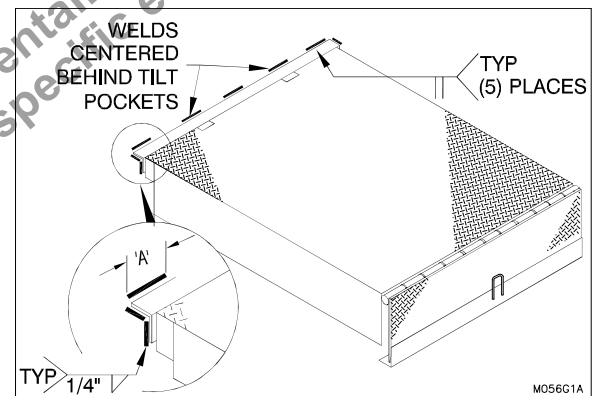

Figure 13: Hydraulic Dock Back Angle Weld of Dock Leveler
**⚠ CAUTION** The maintenance stand of this dock leveler is designed for use only when the dock leveler is securely welded into the dock leveler pit. Use of the stand is not recommended if the dock leveler is not securely welded into the pit (see “Figure 13: Hydraulic Dock Back Angle Weld of Dock Leveler” on page 12). To support the dock leveler at times when installation welding is not in place, an auxiliary maintenance stand that supports the dock leveler more centered on the dock leveler width is recommended. See “Pentalift auxiliary maintenance stand” on page 52.
**The maintenance stand of this dock leveler is designed for use only when the dock leveler is securely welded into the dock leveler pit. Use of the stand is not recommended if the dock leveler is not securely welded into the pit (see “Figure 13: Hydraulic Dock Back Angle Weld of Dock Leveler” on page 12). To support the dock leveler at times when installation welding is not in place, an appropriate generic maintenance stand that supports the dock leveler more centered on the dock leveler width is recommended.**
5. \_\_\_ Weld back angle of dock leveler to rear curb angle as shown in "Figure 13: Hydraulic Dock Back Angle Weld of Dock Leveler" on page 12, using the welding reference and notes on page 26 as a guide.
16. \_\_\_ Complete welding the back angle of the dock leveler to the rear pit curb angle as shown in "Figure 13: Hydraulic Dock Back Angle Weld of Dock Leveler" on page 12.